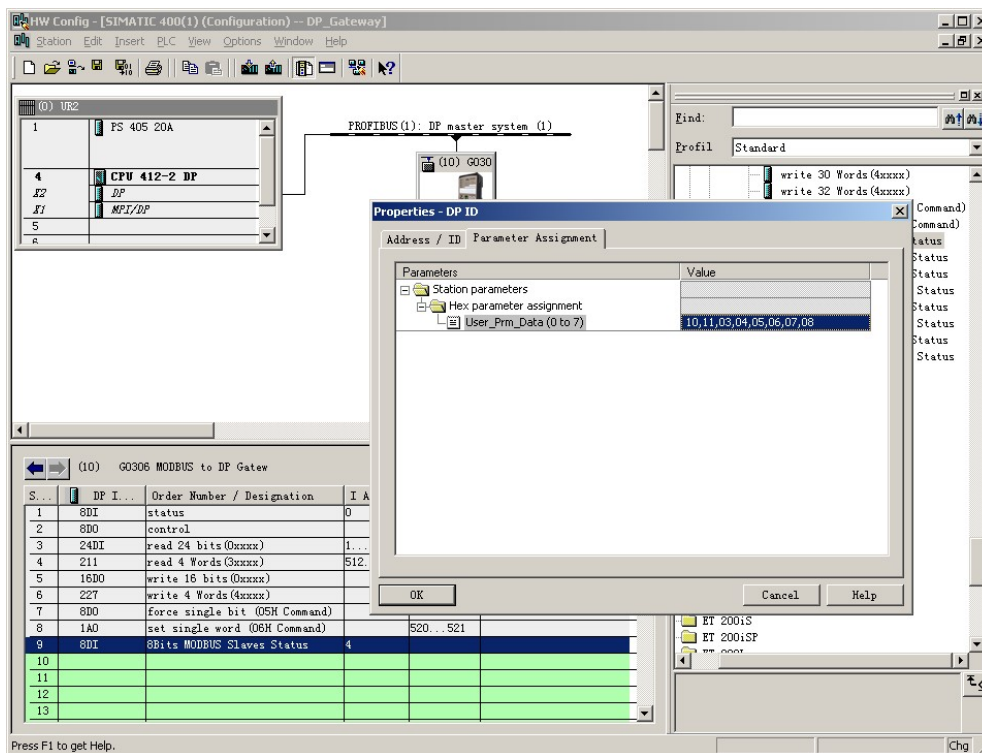

Figure 36 Configure the slave address to be monitored
c) Configure the user parameters of the "8Bits MODBUS Slaves Status" module, as shown in Figure 36:
As shown in Figure 36, each device corresponds to one byte of module user parameters. In the previous example, a total of two slave stations 10 and 11 are configured, so these two addresses are filled in the module user parameters.